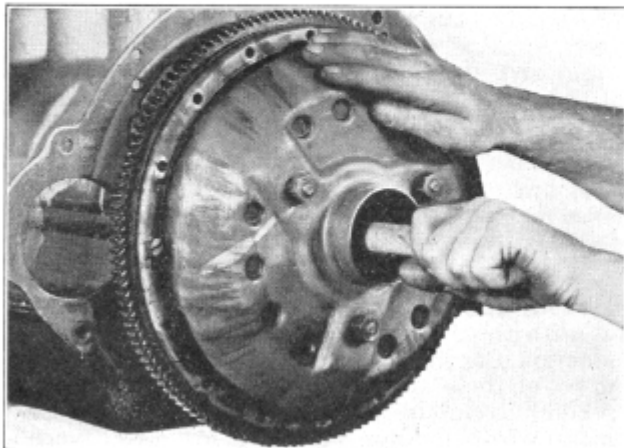

Figure 3
Shellac a new gasket (10) to the front face of the clutch cover bolting flange. Pass the J-384 Clutch Aligning Arbor through the hubs of the clutch assembly and drive plate and entering it into the pilot bearing. (Figure 3.) Push the clutch assembly into place against the flywheel and then secure with capscrews with the aligning arbor still in place to keep the drive plate centered to permit easy installation of the transmission.